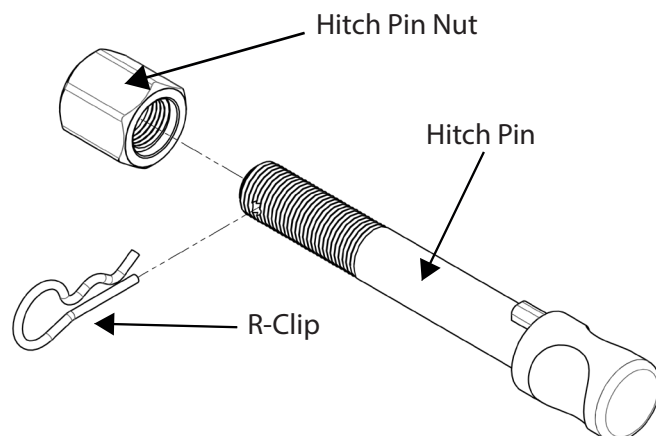

Fig 1. Silent Anti-Rattle Hitch Pin assembly
**STEP 5** Install HITCH PIN R CLIP through the hole on the HITCH PIN (Fig. 1).